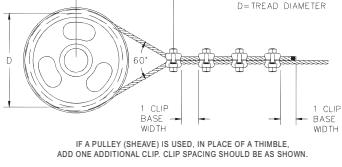

Figure 4
- 4. If a pulley (sheave) is used in place of a thimble, add one additional Fist Grip. Fist Grip spacing should be as shown.** (See Figure 4)
If a pulley (sheave) is used for turning back the wire rope, add one additional clip. See Figure 4.